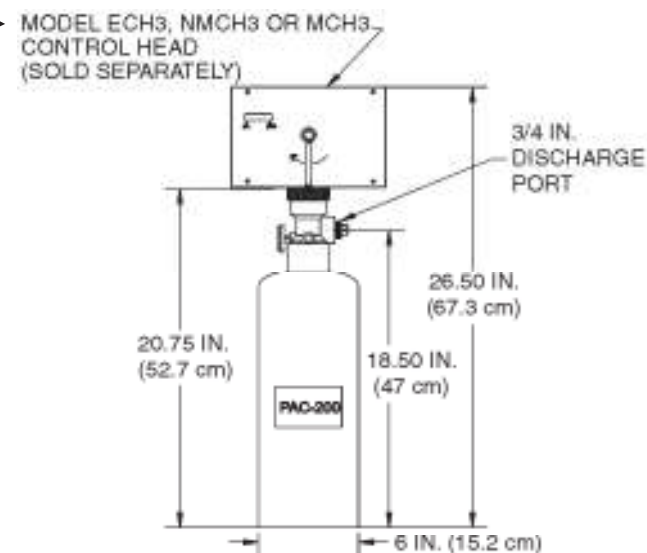

Figure 2-9. Model PAC-200 Pneumatic Actuating Cylinder.
The Model PAC-200 is a pneumatic actuating cylinder that can actuate a maximum of twenty (20) agent cylinders simultaneously. The Model PAC-200 includes a DOT 4BA350 cylinder pressurized with dry nitrogen to 350 PSIG @ 70° F, a brass valve with pressure gauge, and a wall mounting bracket. A Model MCH3, NMCH3 or ECH3 control head must be purchased separately and connected to the PAC-200 to open the valve. **See Figure 2-9.**